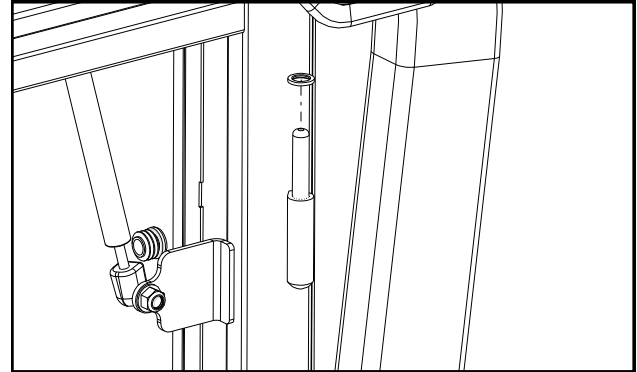
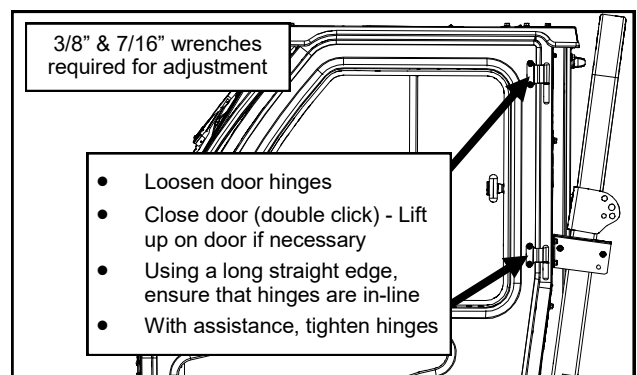

Fig. 18.1 (door hinge washer installation)
Fig. 18.2c (door hinge adjustment)
**18.1** Start out by applying grease to the hinge pins, reinstall all (4) door hinge washers per fig. 18.1. Reinstall the doors into their respective hinge sleeves located on the sideframes. See fig. 18.2c.
- Adjust the hinges located at the rear of the door - See fig. 18.2c